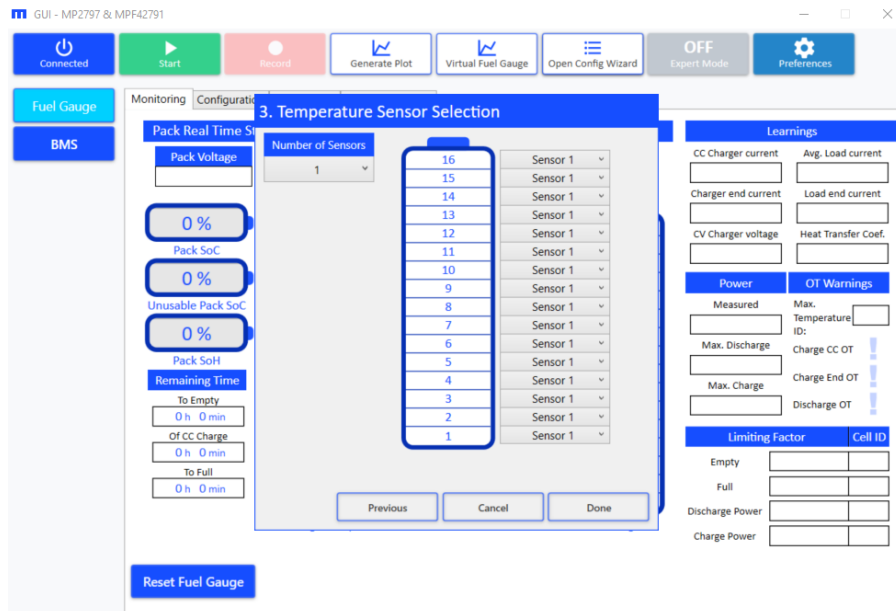

Figure 39: Configuration Wizard 4 – Temperature Sensor Selection
- a. Nominal charge constant voltage: Set this value to the nominal voltage applied to the battery pack by the external charger during constant voltage (CV) charge.
- b. Nominal charge constant current: Set this value to the nominal current applied to the battery pack by the external charger during constant current (CC) charge.
10. The Temperature Sensor Selection window should automatically open. Set the number of temperature sensors used by the fuel gauge. In addition, set a selector for each cell, which selects which temperature sensor is associated with which cell (see Figure 39).